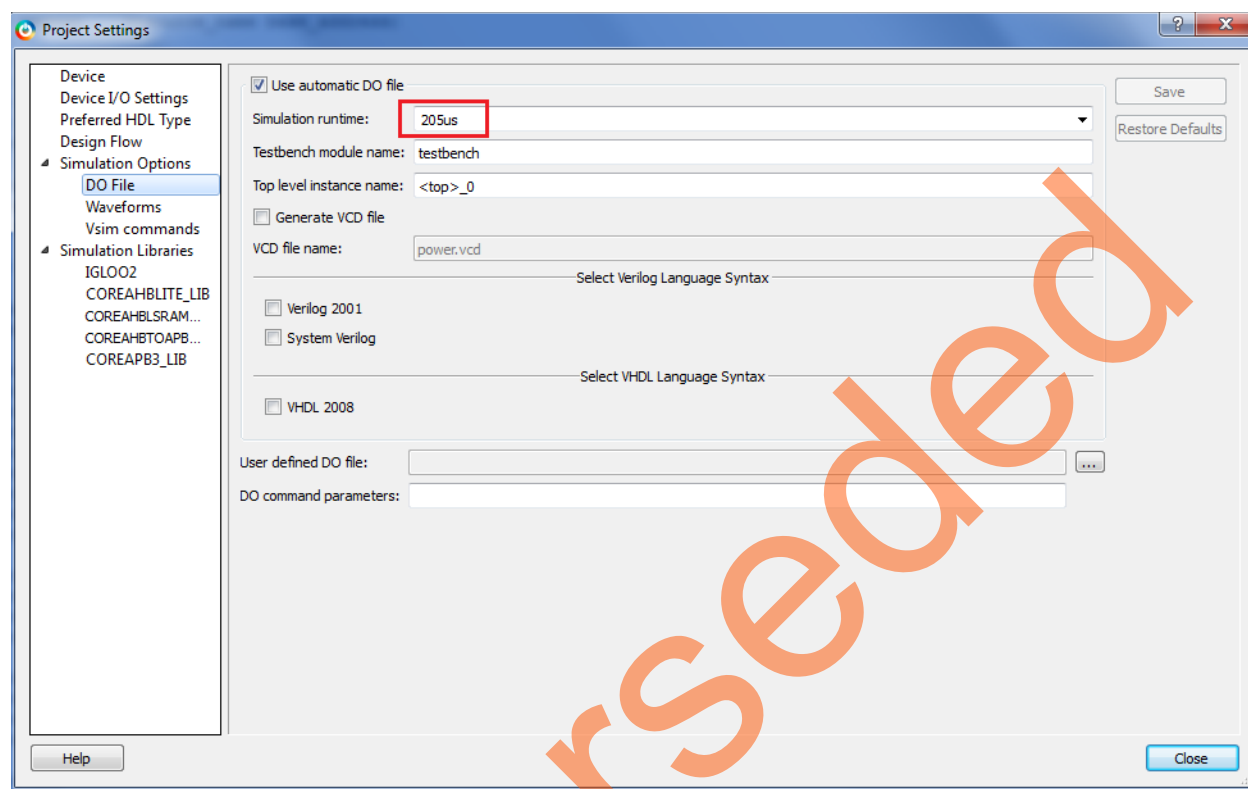

Figure 39 • Project Setting – Do File Simulation Runtime Setting
4. Select **Do File** under **Simulation Options** in the **Project Settings** window. Change the **Simulation runtime** to **280us**, as shown in Figure 39.